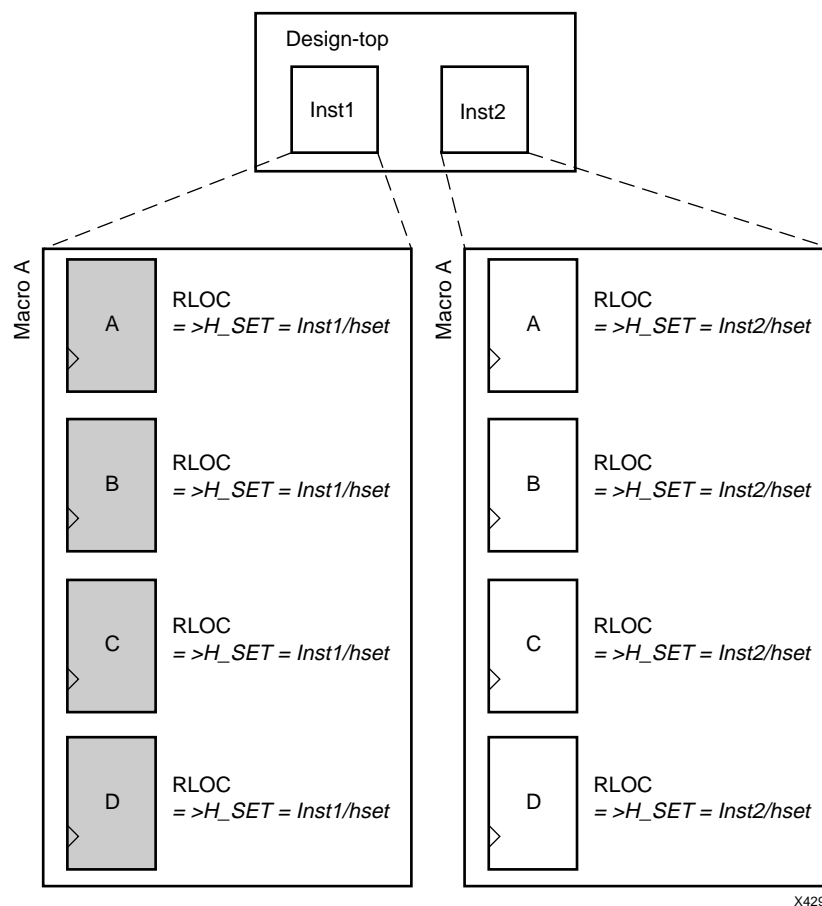

Figure 6-14: Macro A Instantiated Twice
**Note:** In Figure 6-14 and the other related figures shown in the subsequent sections, the italicized text prefixed by => is added by NGDDBuild during the design flattening process. You add all other text.
Figure 6-14 demonstrates a typical use of the implicit H\_SET (hierarchy set). The figure shows only the first “RLOC” portion of the constraint. In a real design, the RLOC constraint must be specified completely with RLOC=RmCn or, for Spartan-II, Virtex-II, Virtex-II Pro RLOC=XmYn. In this example, macro A is originally designed with RLOC constraints on four flip-flops — A, B, C, and D. The macro is then instantiated twice in the design — Inst1 and Inst2.
The name of the H\_SET set is derived from the symbol or node in the hierarchy that includes all the RLOC elements. In the Figure 6-14, Inst1 is the node (instantiating macro) that includes the four flip-flop elements with RLOCs shown on the left of the figure. Therefore, the name of this H\_SET set is the hierarchically qualified name of “Inst1” followed by “h\_set.”
Figure 6-14 demonstrates the simplest use of a set that is defined and confined to a single level of hierarchy. Through linkage and modification, you can also create an H\_SET set that is linked through two or more levels of hierarchy.
The ability to modify RLOC values down the hierarchy is particularly valuable when instantiating the same macro more than once. Typically, macros are designed with RLOC constraints that are modified when the macro is instantiated. Figure 6-17 is a variation of the sample design in Figure 6-14. The RLOC constraint on Inst1 and Inst2 now link all the objects in one H\_SET set.